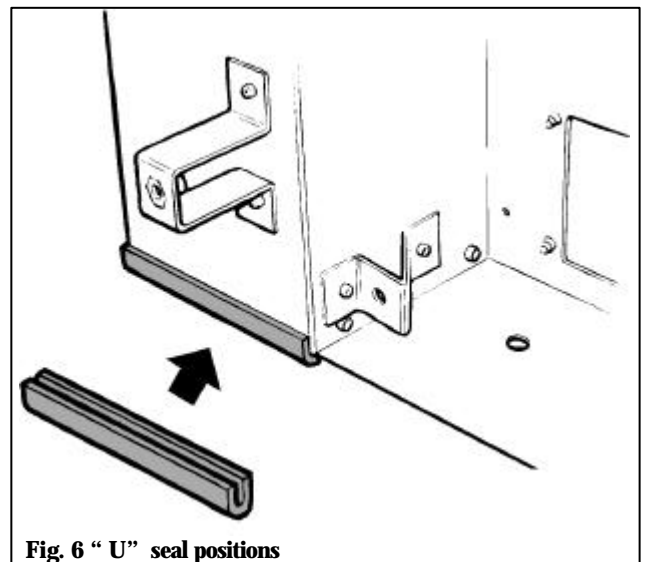

Fig 6 "U" seal positions
6.3 Fit the two small "U" section seals to the bottom edges of the convection box side flanges (see fig.6)